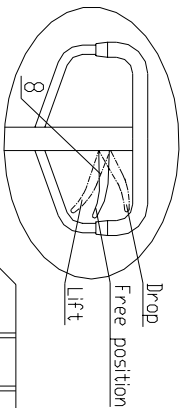

Fig. 4
2.1.7 Try to rock the hand grip and operate different positions of control handle knob 8 to examine the lifting, free position and dropping and check that whether the different positions are normal or not. See fig 4
5.2 See fig 4. When the hand pallet truck with scale is used to weigh or carry some cargo, the handle knob 8 should be placed on dropping condition to let the truck forks down to a certain position. Then insert the forks to the pallet and place the handle knob 8 on the lifting condition so as to rock the handle grip to lift the truck forks.